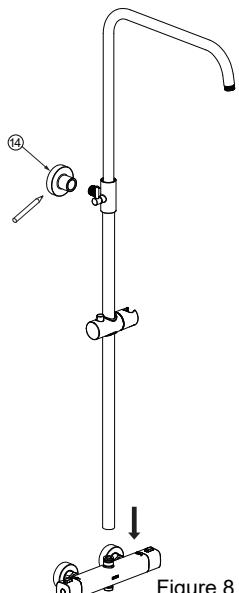

Figure 8
- c) Connect the raiser rail to the thermostatic shower bar and mark the position of the pipe connector on the wall (Figure 8).